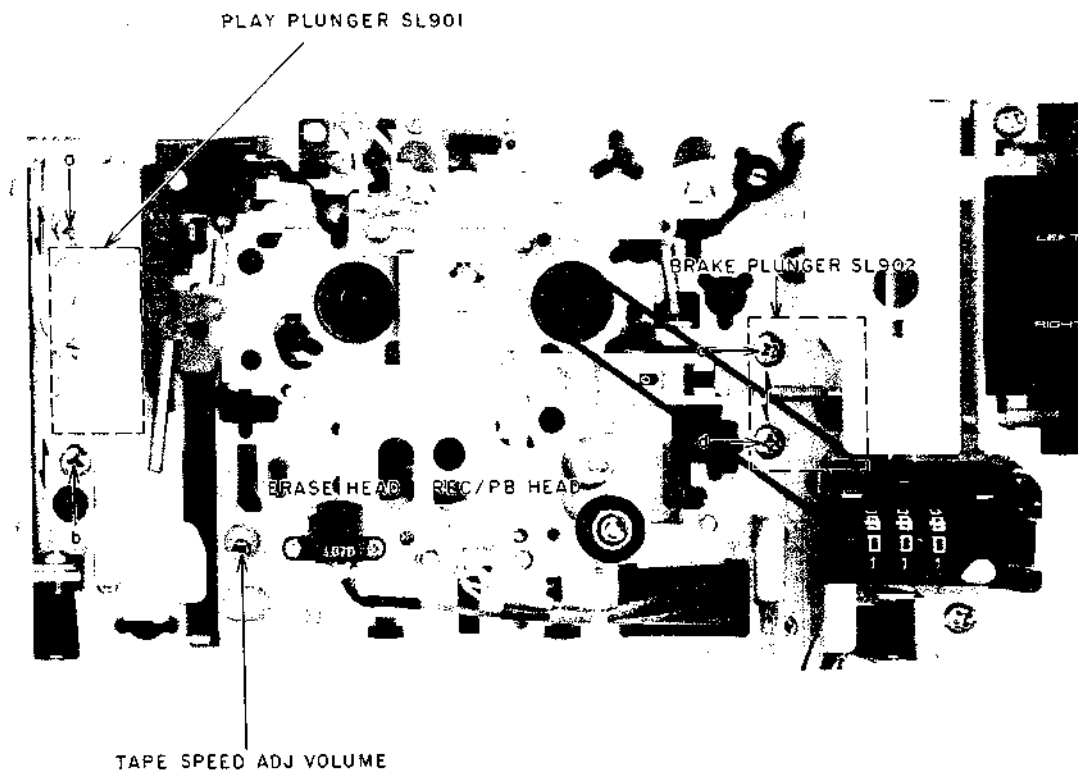

Fig. 6
2. Plunger positioning (Refer to Figs. 6, 7)
5. Tape Speed Adjustment (Refer to Fig. 6)